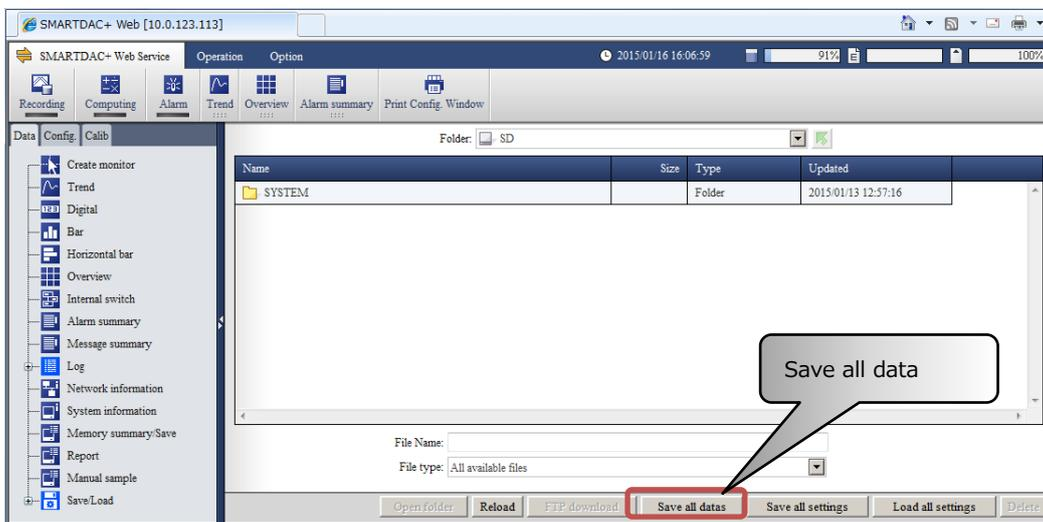

Figure 3: Save/load screen (1)
- 3.3 Using the contents selection tool, click Data > Save/Load > File List to open the save/load screen (see figure 3).